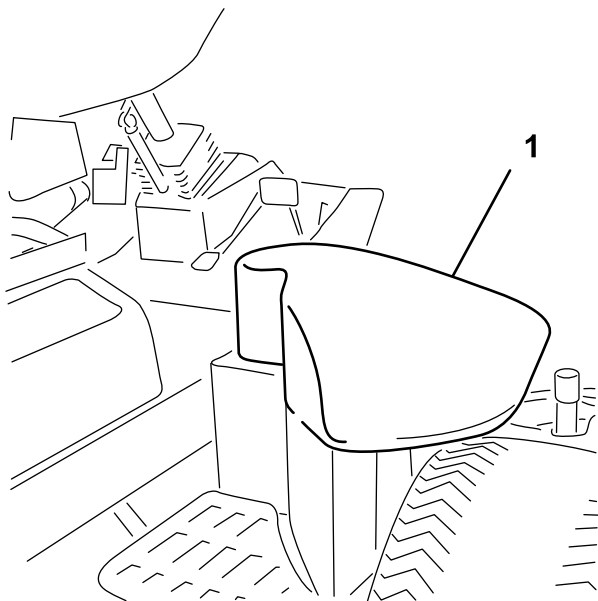

Figure 34
- On the right side of the machine, raise the hydraulic tank cover (Figure 34).